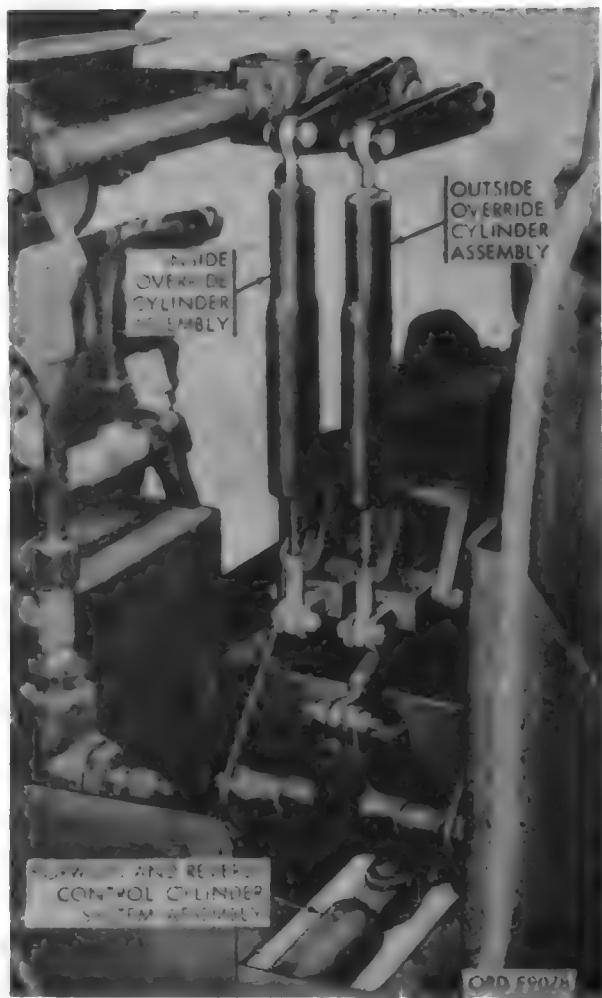

Figure 164. Override cylinder assemblies and control cylinder system assembly.
- (4) If right wheel creeps, lengthen or shorten the inside override cylinder assembly (fig. 164) by removing one bolt, washer, and safety nut and loosen the lock nut on end rod. This allows the end rod to be turned in either direction to shorten or lengthen the cylinder assembly. Adjust the end rod in or out until the wheel stops turning when the linkage is reassembled. This will be its neutral position. Tighten the lock nut, assemble the linkage, and secure with hexagon head bolt, flat washer, and safety nut.
- (1) If control stick moves too far forward or backward, lengthen or shorten control cylinder system assembly (fig. 164) as in *g(4)* above.